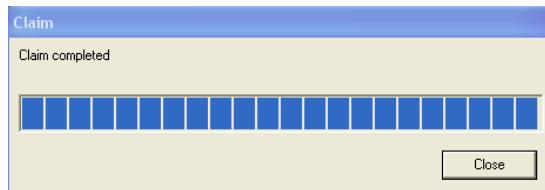

Figure 6: Claim Dialog Box
8. After the claim process is complete, SP3D displays the **Claim** dialog box, as shown in Figure 6. Click **Close** to close the dialog box.